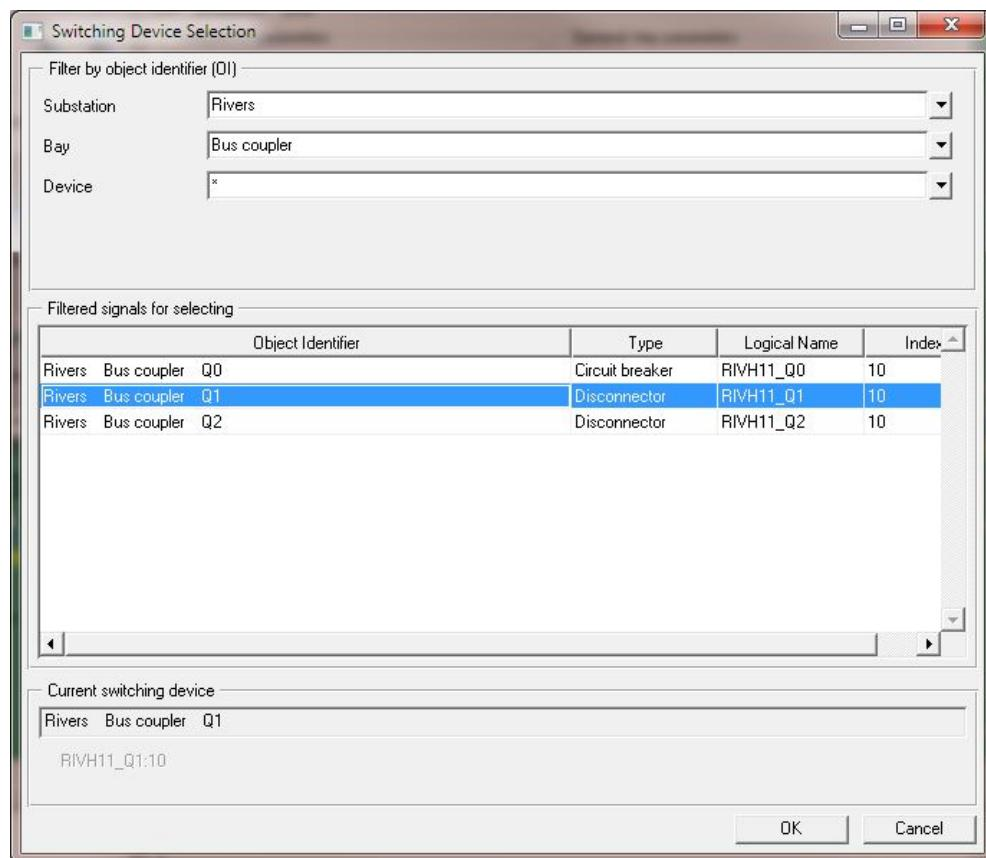

Figure 96: Switching Device Selection for commands
- CLOSE for closing switching object (see Figure 96)
- OPEN for opening switching object (see Figure 96)